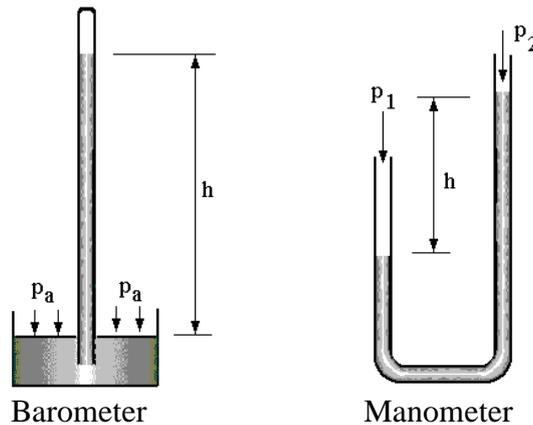

Fig.4
A manometer (fig.4) is used to measure the pressure of gas in a container. One side is connected to the container and the other side is open to the atmosphere. The manometer contains oil of density  $750 \text{ kg/m}^3$  and the head is 50 mm. Calculate the gauge pressure of the gas in the container.
2. A manometer (fig.4) is used to measure the pressure of gas in a container. One side is connected to the container and the other side is open to the atmosphere. The manometer contains water of density 1000 kg/m3 and the head is 250 mm. Calculate the gauge pressure of the gas in the container. (2.452.5 kPa)